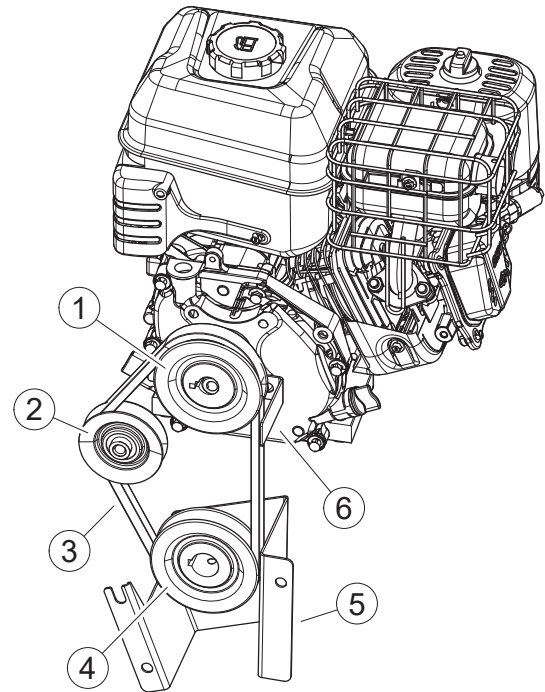

Figure 5.11, Single Belt Drive
2. Loosen set screws and using a straightedge align the engine pulley (1) with the idler pulley (2) and the rotor pulley (4) with the engine pulley (1). See Figure 5.11. Tighten all set screws.
3. Engage the clutch with the belt (3) in place and check idler engagement. See Figure 5.11. The idler pulley should impact the belt in the center of the pulley. All pulleys must be in perfect alignment. Torque pulley set screws to 160 in-lbs.